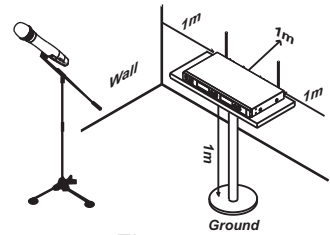

Fig. 7
4. For improving reception range, install the receiver at least 1 meter above the ground and away from EMI / RFI “noise” sources. In addition, place the transmitter at least 1 meter away from the receiving antenna, Fig. 7.